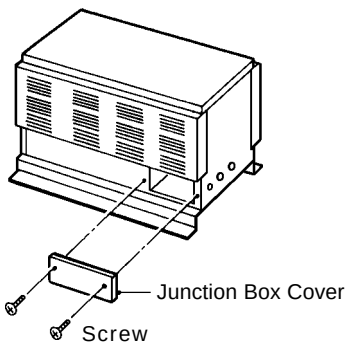

Fig. 19
1) Remove the two screws and the Junction Box Cover of the Condenser Unit. See Fig. 19.